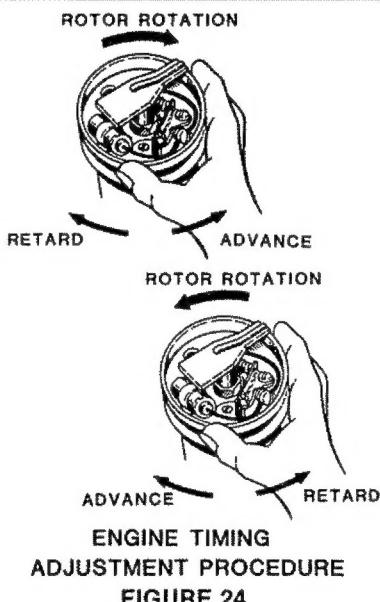

FIGURE 24
- Slowly turn the distributor in the correct direction as shown in Figure 24: